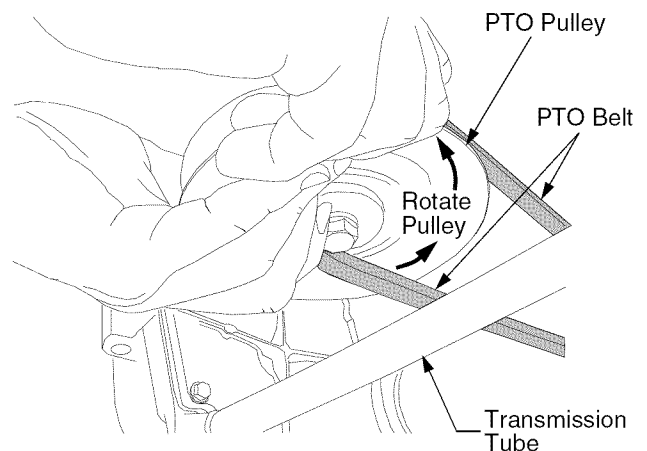

Figure 36
- Pull the right side of the belt rearward and place the narrow V side of the belt into the PTO pulley. See Figure 36.
- While holding the belt and pulley together, rotate the pulley to the left (See Figure 36). Continue holding and rotating the pulley and belt until the belt is fully rolled into the PTO pulley. **NOTE:** If using the left side of the belt, turn the pulley to the right.